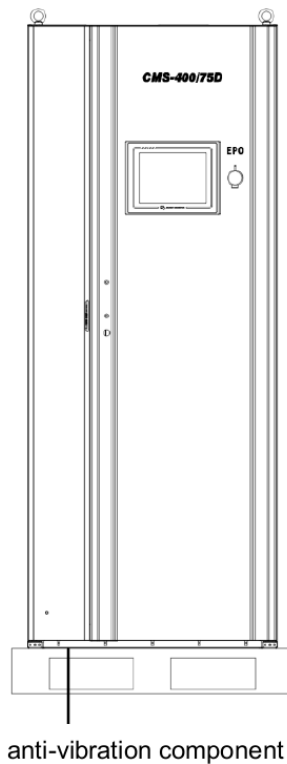

Figure 3-3 : remove fixing bolts (8 pcs) of anti-vibration component
2. As figure 3-3 shows, remove the anti-vibration component at the bottom of the cabinet, and then use the forklift to move the cabinet to the installation position.